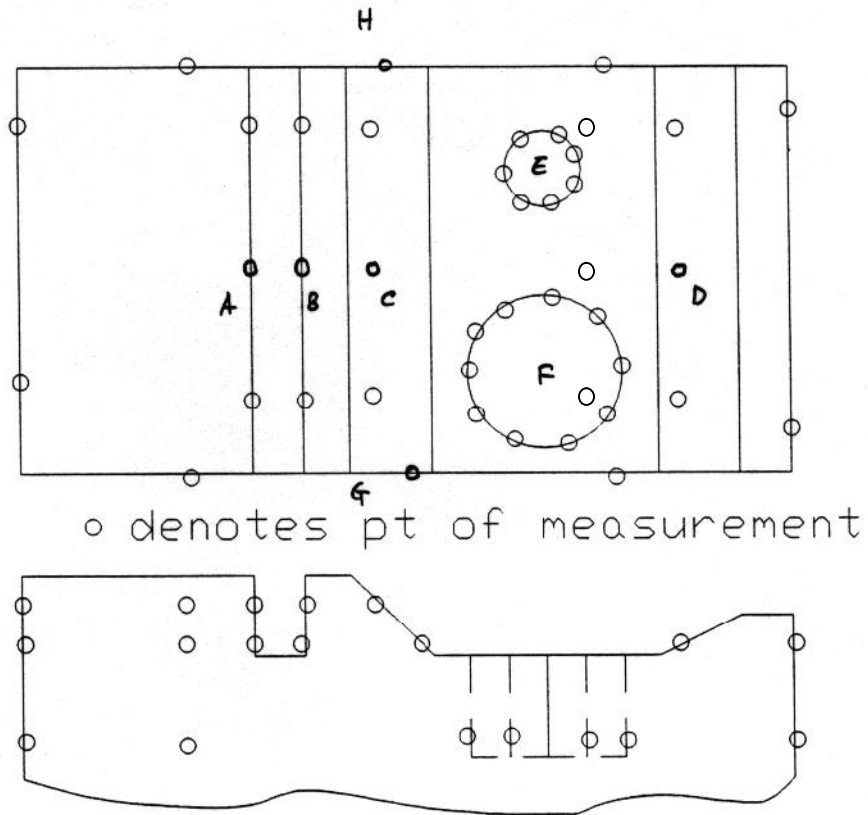

Figure 2: Measurement positions for the coordinate measurements.
2. Perform the measurements on the specified points (see Figure 2)